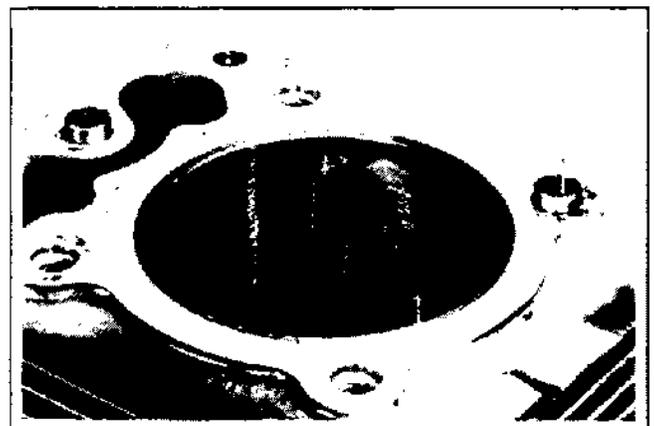

Figure 10-2. Cylinder Bore Crosshatch After Honing.
3. When the bore is within **0.064 mm (0.0025 in)** of desired size, remove the coarse stones and replace with burnishing stones. Continue with the burnishing stones until within **0.013 mm (0.0005 in)** of desired size and then use finish stones (220–280 grit) and polish to final size. A cross-hatch should be observed if honing is done correctly. The crosshatch should intersect at approximately **23–33°** off the horizontal. Too flat of an angle could cause the rings to skip and wear excessively, too steep of an angle will result in high oil consumption (refer to Figure 10-2).